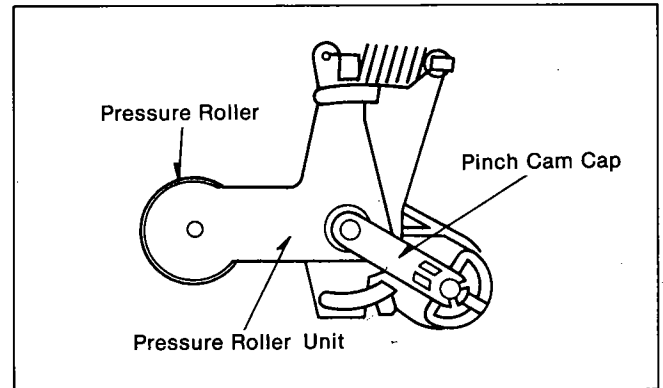

Figure MA13
5. Remove the Pinch Cam Cap and Pressure Roller Unit as shown in Figure MA13.
7. Unscrew a screw (N) and unsolder 5 of solder portions.